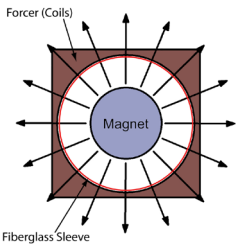

Figure 3
- The coils surround the magnets allowing for the optimal use of all the magnetic flux. (**Figure 3**)